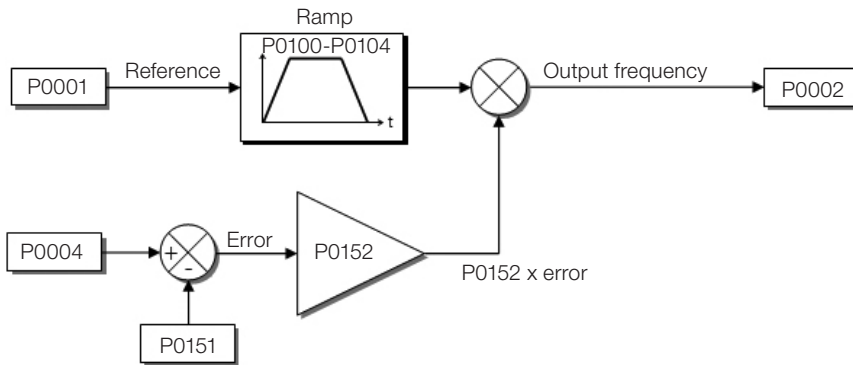
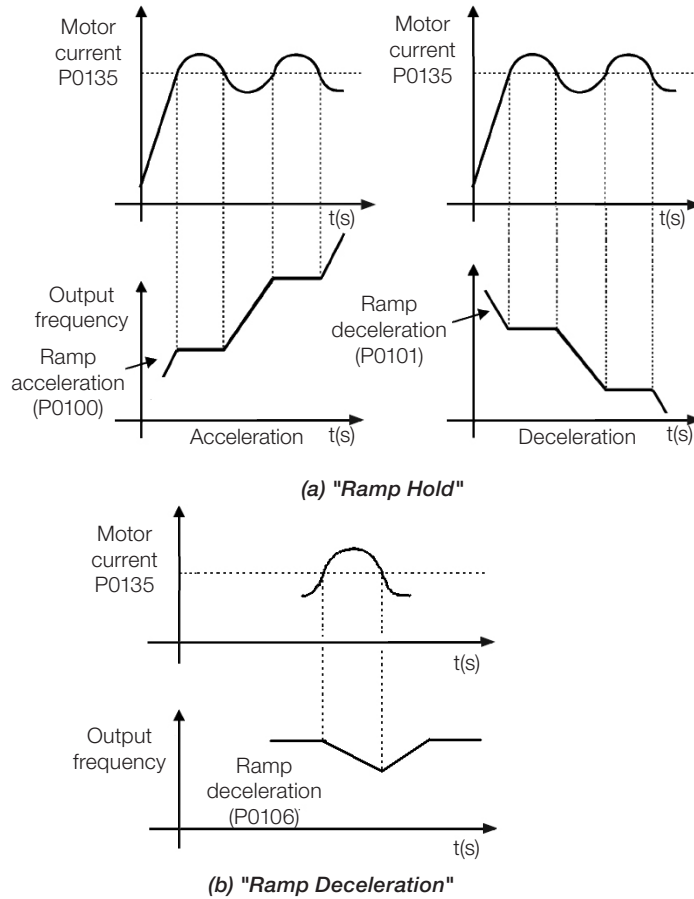

Figure 9.8: Block diagram of DC Link voltage limitation – Accelerate Ramp
Figure 9.10: (a) and (b) Actuation modes of Current Limitation via P0135
- Actuation: the DC Link voltage is measured (P0004) and compared to the value set in P0151; the difference between those signals (error) is multiplied by the proportional gain (P0152); the result is then added to the ramp output, as per Figure 9.8 on page 9-10 and Figure 9.10 on page 9-12.
- Actuation: if the motor current exceeds the value set in P0135 during acceleration or deceleration, the speed will not be incremented (acceleration) or decremented (deceleration). When the motor current reaches a value below P0135, the motor accelerates or decelerates again. Refer to Figure 9.10 on page 9-12.
- Actuation: if the motor current exceeds the value set in P0135, a null value is forced for the speed ramp input forcing the motor deceleration. When the motor current reaches a value below P0135, the motor accelerates again. Look at Figure 9.10 on page 9-12.
Current level to activate the current limitation for the Ramp Hold and Decelerate Ramp modes, as per Figure 9.10 on page 9-12, respectively.